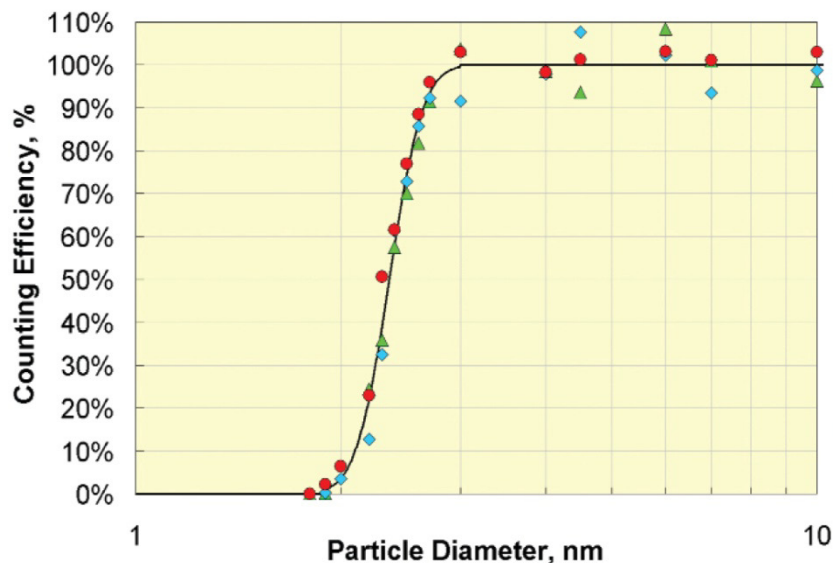

Figure 2: CPC Model 3776 counting efficiency curve using monodisperse sucrose aerosol as the challenge aerosol and an electrometer as the reference detector.
2. Minimum Detectable Particle Size—The minimum detectable particle diameter of a CPC can be described with a detection efficiency curve where the CPC counting efficiency versus a standard is plotted as a function of particle diameter (Figure 2). A steeper curve is generally preferred, so the counting range of the CPC can be more precisely defined. The minimum detectable particle size is commonly defined as the diameter at which 50% of the particles are detected by the counter (D_{50}). Typically, a lower detectable particle size is associated with a more complex instrument. The primary factors affecting the D_{50} are: